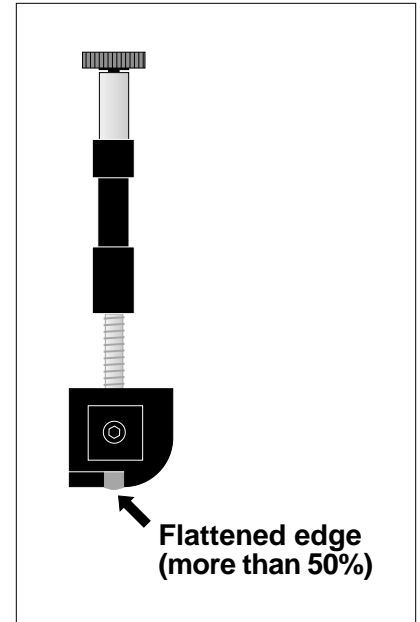

Figure 6-7. Bar Gate
- Bar Gate: Angled wedge begins to flatten excessively (Figure 6-7).